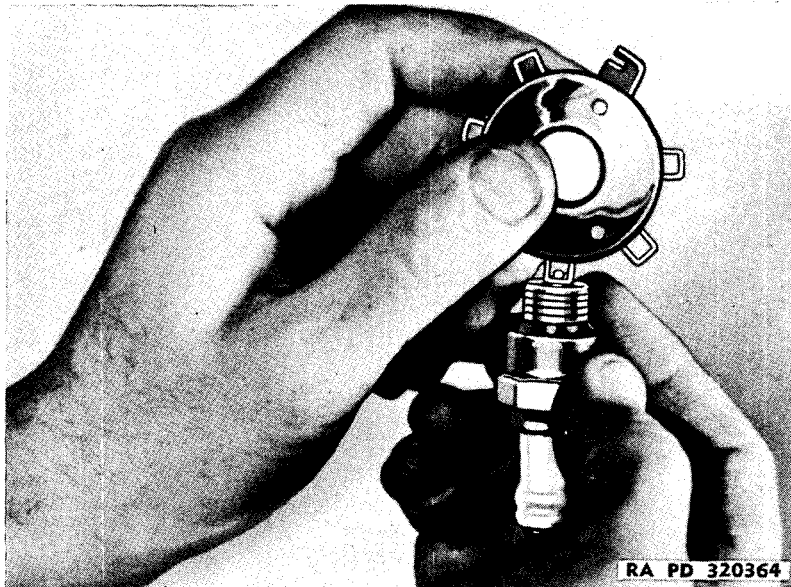

Figure 63—Gaging Spark Plug Gap, using Gage (41-G-350)
a. **Spark Plugs.** The spark plugs should be kept clean, and should be tight enough to make good seal only. Too much pressure will distort plug. The spark plugs should be removed from cylinder head periodically, cleaned, and gap adjusted to 0.030 inch with wire gage (fig. 63). When adjusting spark plug gap, make the adjustment by bending the grounded electrode. **CAUTION:** *Never bend center electrode, as it will damage porcelain insulator. Spark plug terminals must always be tight.*